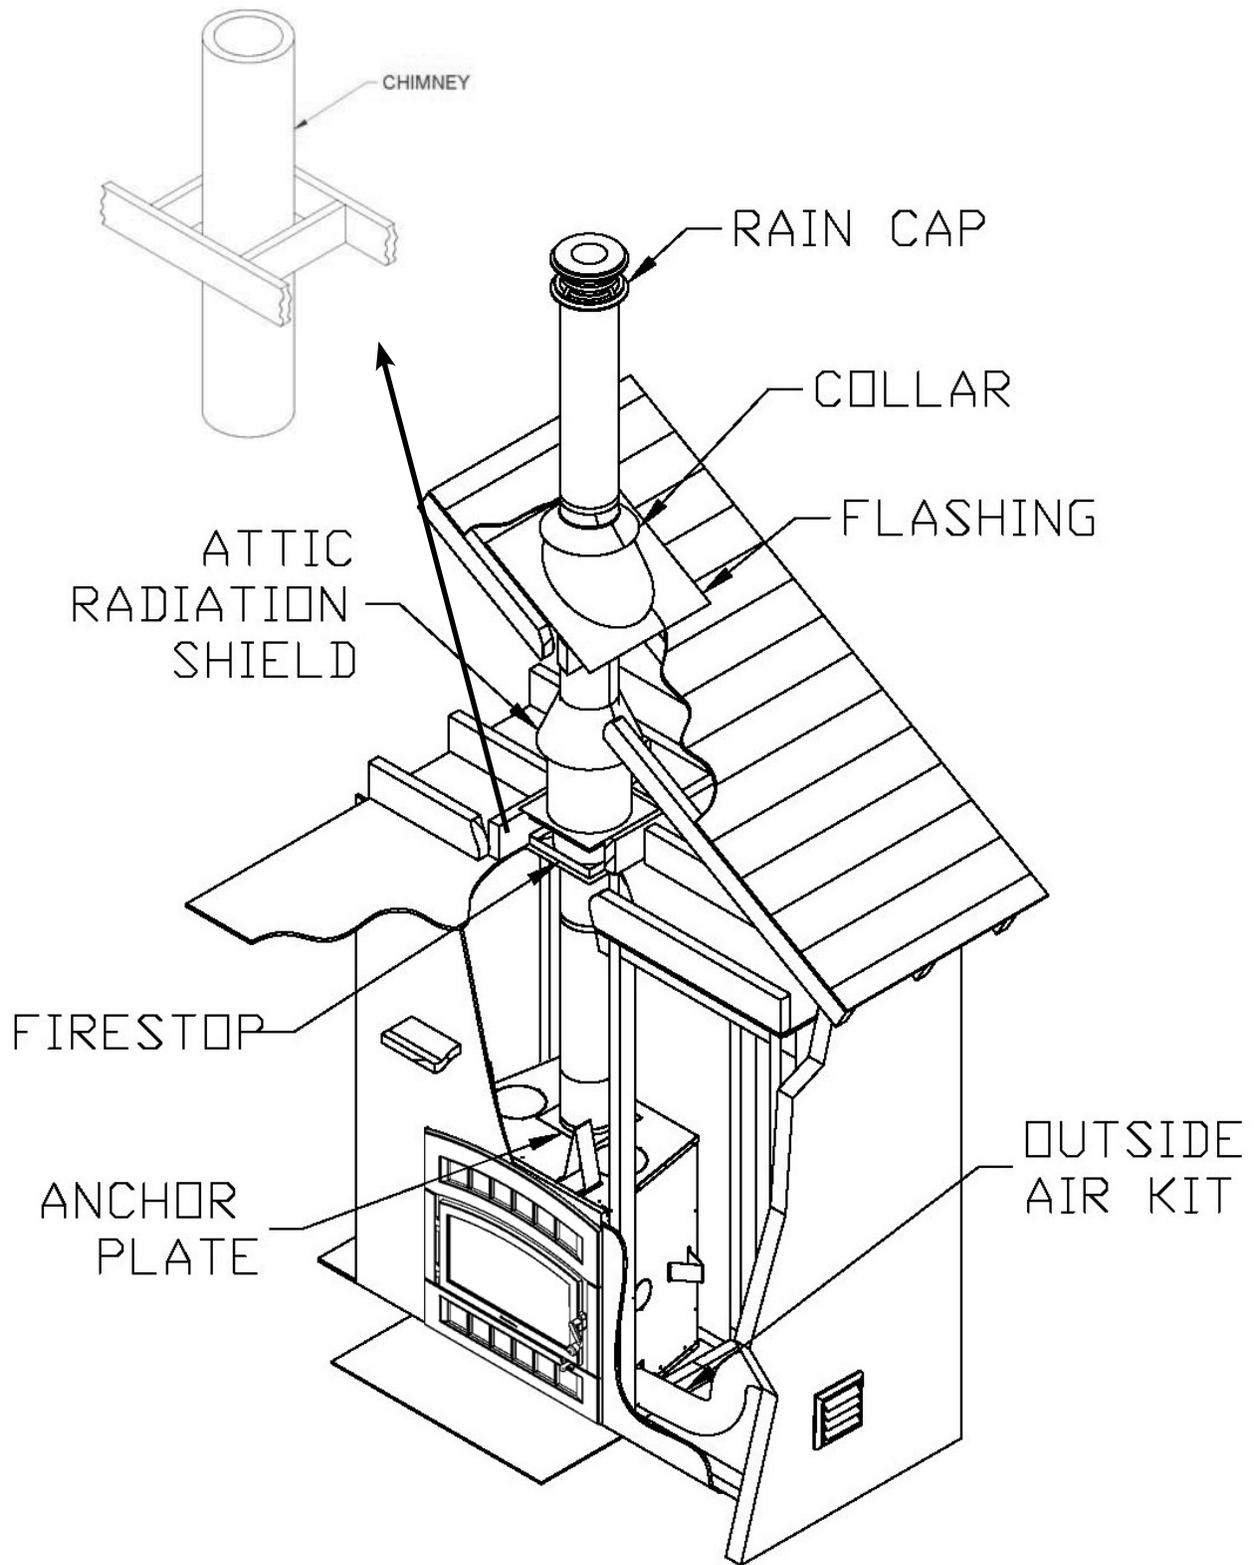

Figure 44
2. From below, install a firestop supplied by the chimney manufacturer in each ceiling/ floor separation through which the chimney will pass. At the attic level, install an attic radiation shield from above (see figure 44).
3. Follow the chimney's manufacturers' instructions and place the first chimney length on the fireplace. For all chimneys, you must use an anchor plate supplied by the chimney manufacturer before installing the first chimney length (see figure 44). Continue installing chimney lengths making sure to lock each length in place.
5. Then, put the roof flashing in place and seal the joint between the roof and the flashing with roofing pitch (see figures 44). For sloping roofs, place the flashing under the upper shingles and on top of the lower shingles. Nail the flashing to the roof, using roofing nails.
5. From below, install a firestop supplied by the chimney manufacturer (see figure 44).